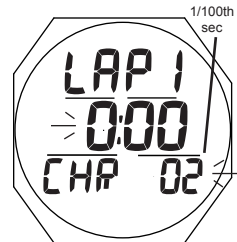

Fig. 11 - CHRONO STATUS (Lap 1 started)
**Chrono Status**, information includes (Fig. 11):